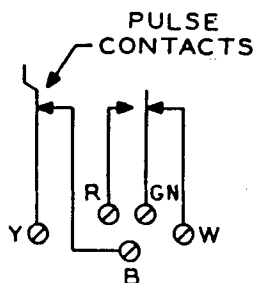

Fig. 7
- Dial contact schematics (Fig. 7, 8, and 9).